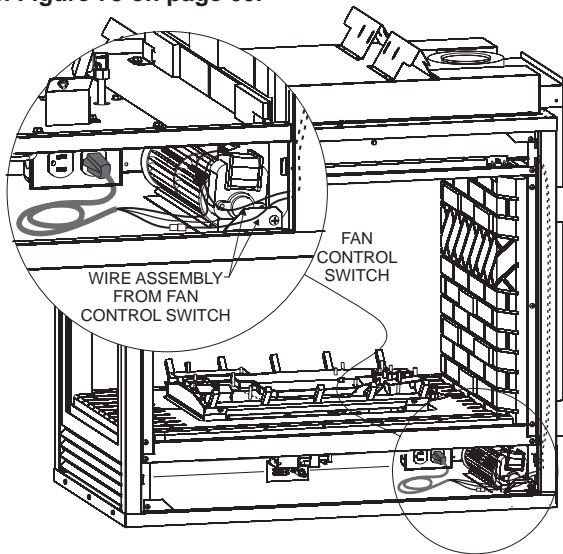

Figure 71
To install the blower kit or access the junction box, remove lower louver as illustrated by **Figure 71.**
4. Insert blower assembly into interior, bottom of fireplace. **NOTE:** On peninsula models, the blower must be installed at the end which has the brick panel installed. Position blower assembly so that you align the notch on back of blower assembly with the center screw on side/end panel, then push the blower assembly against fireplace outer panel. The blower wheel must be centered with the side/end wall of the fireplace. The magnets on the back and bottom of blower assembly will sufficiently hold blower assembly in place. **See Figure 71.**
6. Next, find the fan control wire assembly. Feed the wires over the top of the firebox. The fan control wires will slide down between the firebox and outer wrap near the blower assembly. **See Figure 71. Attach the two 3/16" wire terminals to the fan control switch as shown in Figure 72. Attach the wire terminals at the blower as shown by letters "A" and "B" in Figure 75 on page 60.**